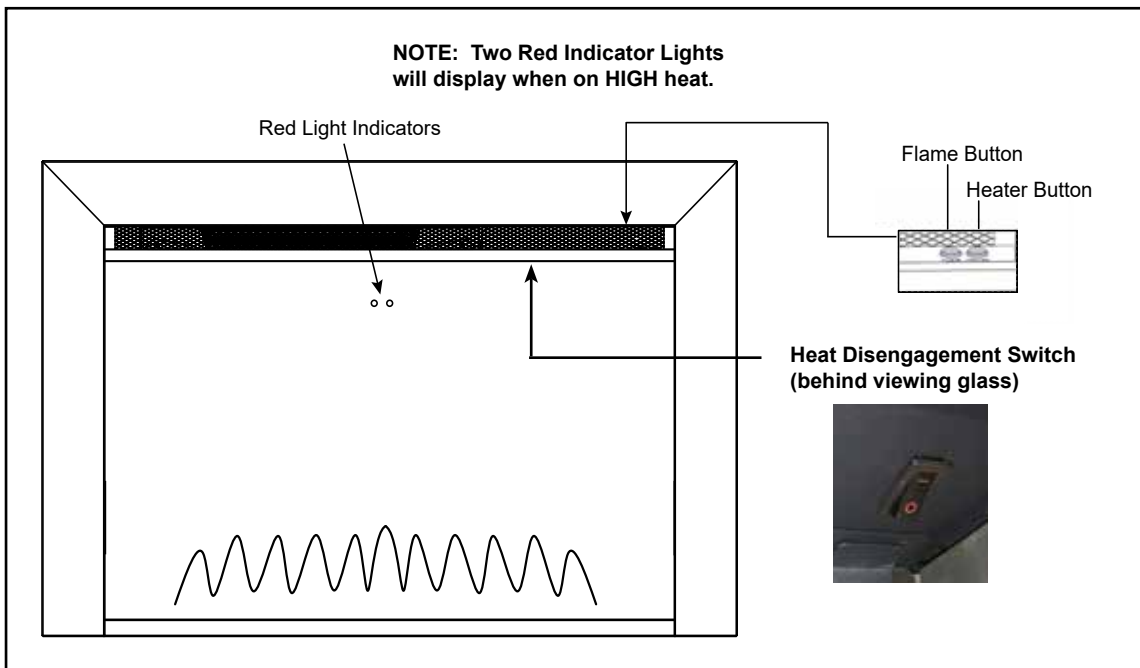

Figure 5.1 Manual Switch and Indicator Light
The appliance can be operated by both remote control and manual button. Once the appliance has been properly connected to a grounded electrical circuit, the appliance can be turned ON by pressing the Flame button to cycle through Flame options, or the Heater button to cycle heater settings. See Figure 5.1.
- Press the heater button to turn ON. The appliance will beep, illuminate one LED (see Figure 5.1), and turn the heater on LOW heat setting.
The appliance is equipped with a heat disengagement switch. This switch disables the use of the heater and will prevent it from being turned on by the remote or manual heater button. The switch is located behind the front viewing glass and is on the ceiling inside the appliance. See Figure 5.1. Refer to Section 4 for glass removal.